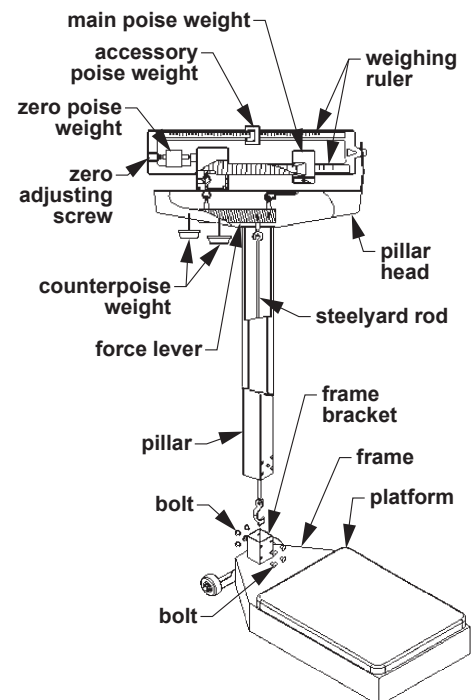

Fig. 2: Pillar Installation
2. Install the pillar in the scale base frame bracket, with scale face facing platform, as shown in Fig. 2.